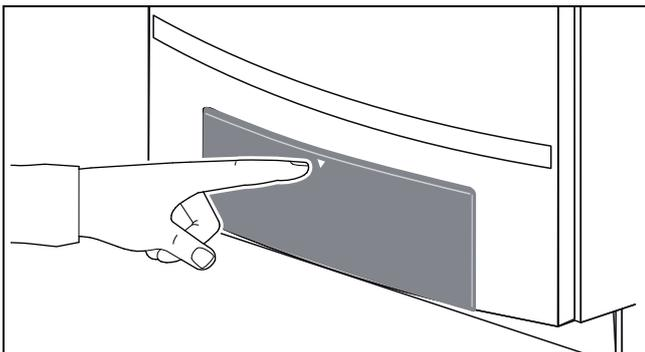
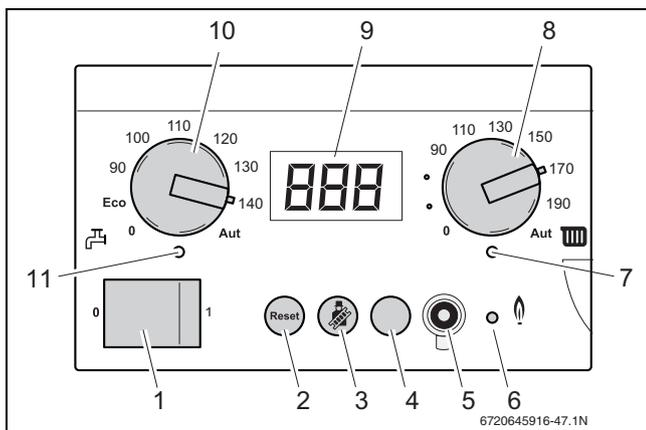

Fig. 50 Opening the control panel
Fig. 51 BC10 basic controller
- ▶ Push on the control panel (→ fig. 50) to get access to the BC10 basic controller (→ fig. 51).
"Main power switch" (→ fig. 51, [1])
"Reset" button (→ fig. 51, [2])
"Chimney sweep" button (→ fig. 51, [3])
"Service" button (→ fig. 51, [4])
Service Tool connection (→ fig. 51, [5])
LED "Burner operation" (→ fig. 51, [6])
LED "Central heat demand" (→ fig. 51, [7])
Space heating water temperature knob (→ fig. 51, [8])
Display (→ fig. 51, [9])
DHW temperature knob (→ fig. 51, [10])
LED “DHW demand” (→ fig. 51, [11])
You can navigate through the menu structure of the boiler on the BC10 using the “Reset” button, the “Chimney sweep” button, the “Service button” (→ fig. 51, [2, 3 and 4]) and the display (→ fig. 51, [9]).